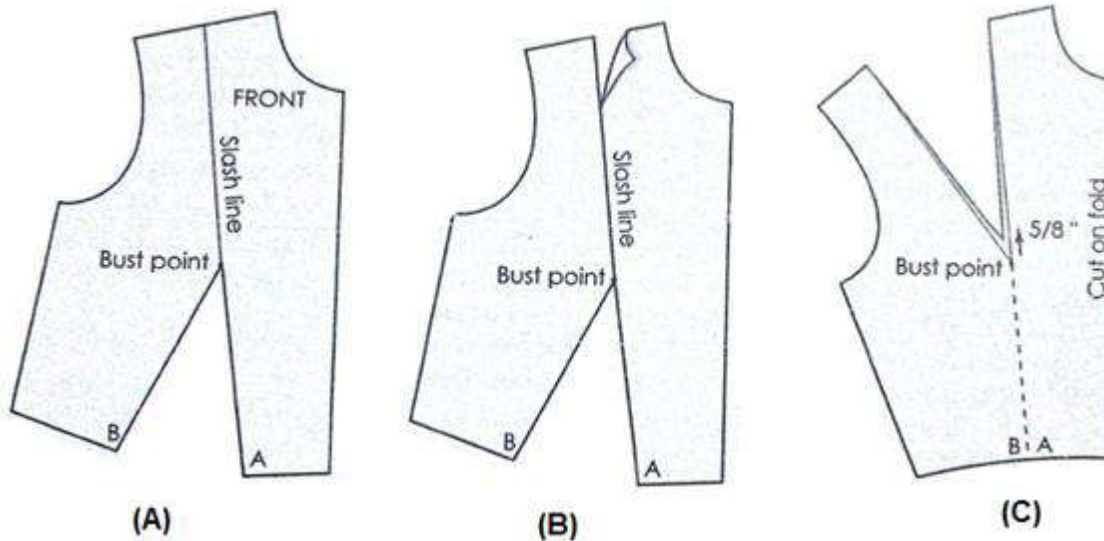

Figure 1.2: slash - spread / slash - overlap
- ✓ Draws slash line from the dart point to the new position the dart. Here moving waist dart to shoulder dart. (fig. 1.2 (a)).
- ✓ Slash through the line to the dart point. (fig. 1.2 (b)).
- ✓ Close up the old dart to open the new one and tape the old one close. (fig. 1.2 (c)).